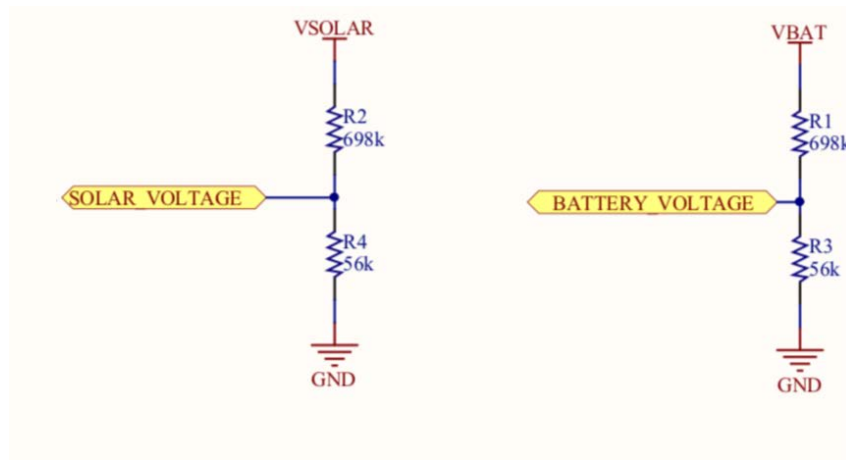

Figure 5: Voltage measurement
5. Figure 5 Voltage measurement
There are 2 voltages that need to be measured; solar panel output voltage and battery voltage. This circuit uses resistor to divide the high voltage to low voltage that matches with the ADC Range of the microcontroller unit (MCU). MCU will read the divided voltage and calculate the solar panel output voltage and battery voltage then display it on the LCD. The only adjustment needed is for input voltage range to correspond to ADC input range (which is 0-3.3V in case of STM32). The input range of 0-28V can be shrunk down to 0-3.3V using a voltage divider. The voltage divider follows equations 1 and 2 as shown in figure 5.